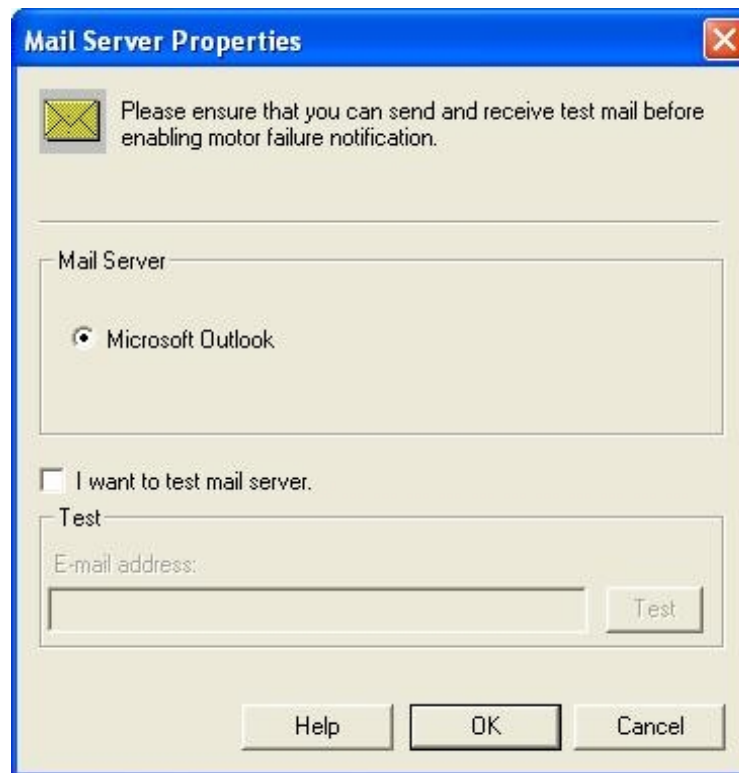

Figure 55: Mail Server properties
6. On the Mail Server Properties window in Figure 55, click **I want to test mail server**
8. Close the Mail Server Properties window at Figure 55.